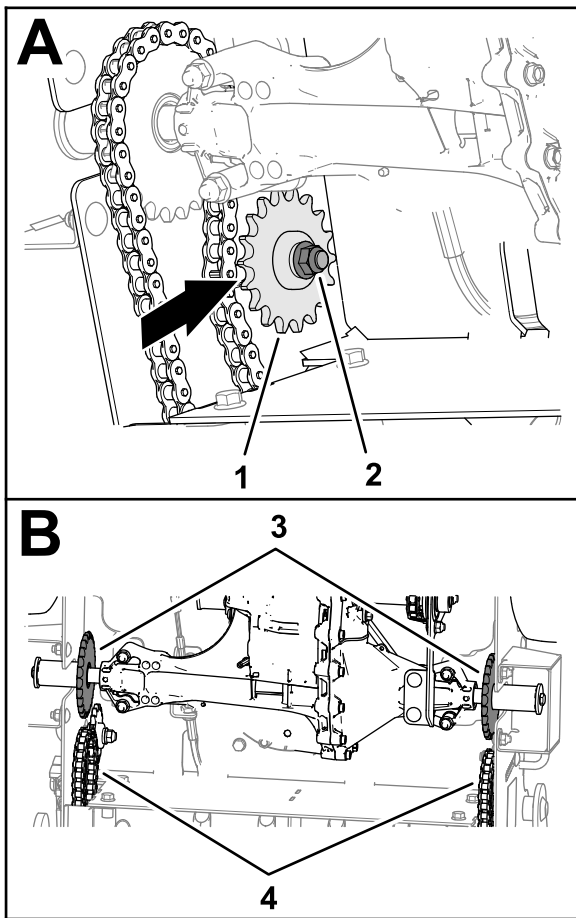

**Figure 53**
3. Remove and retain the connecting link from the wheel-drive-chain, and remove the chain from the transaxle sprocket and the wheel-drive sprocket (Figure 53).